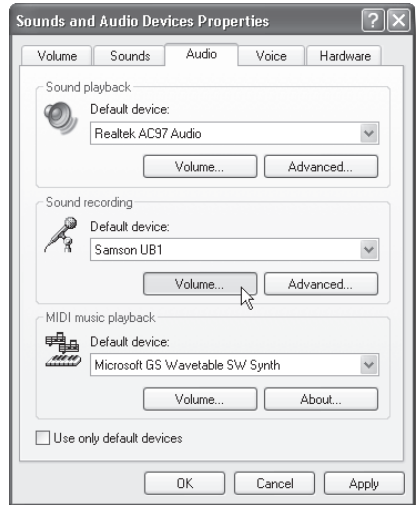

Figure 4
4. To use the UB1 as your default input device (for programs like Sound Recorder), ensure that it is set for recording in the Audio tab (figure 4).